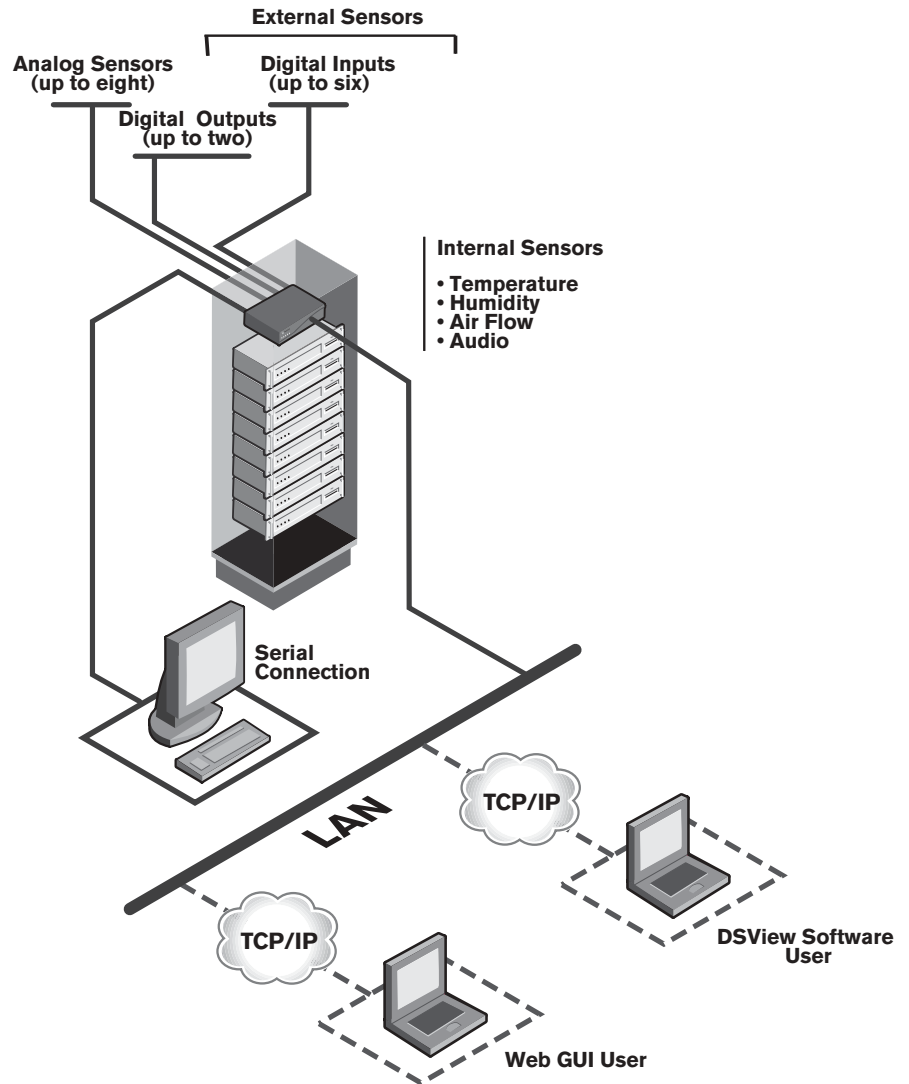

Figure 1.2: Typical EVR1500 Environmental Monitor Appliance Configuration
Shown in Figure 1.2, a typical configuration consists of the EVR1500 environmental monitor appliance, a serial connection for setup, an Ethernet connection and a PC running Microsoft® Internet Explorer (IE) or Avocent DSView software.